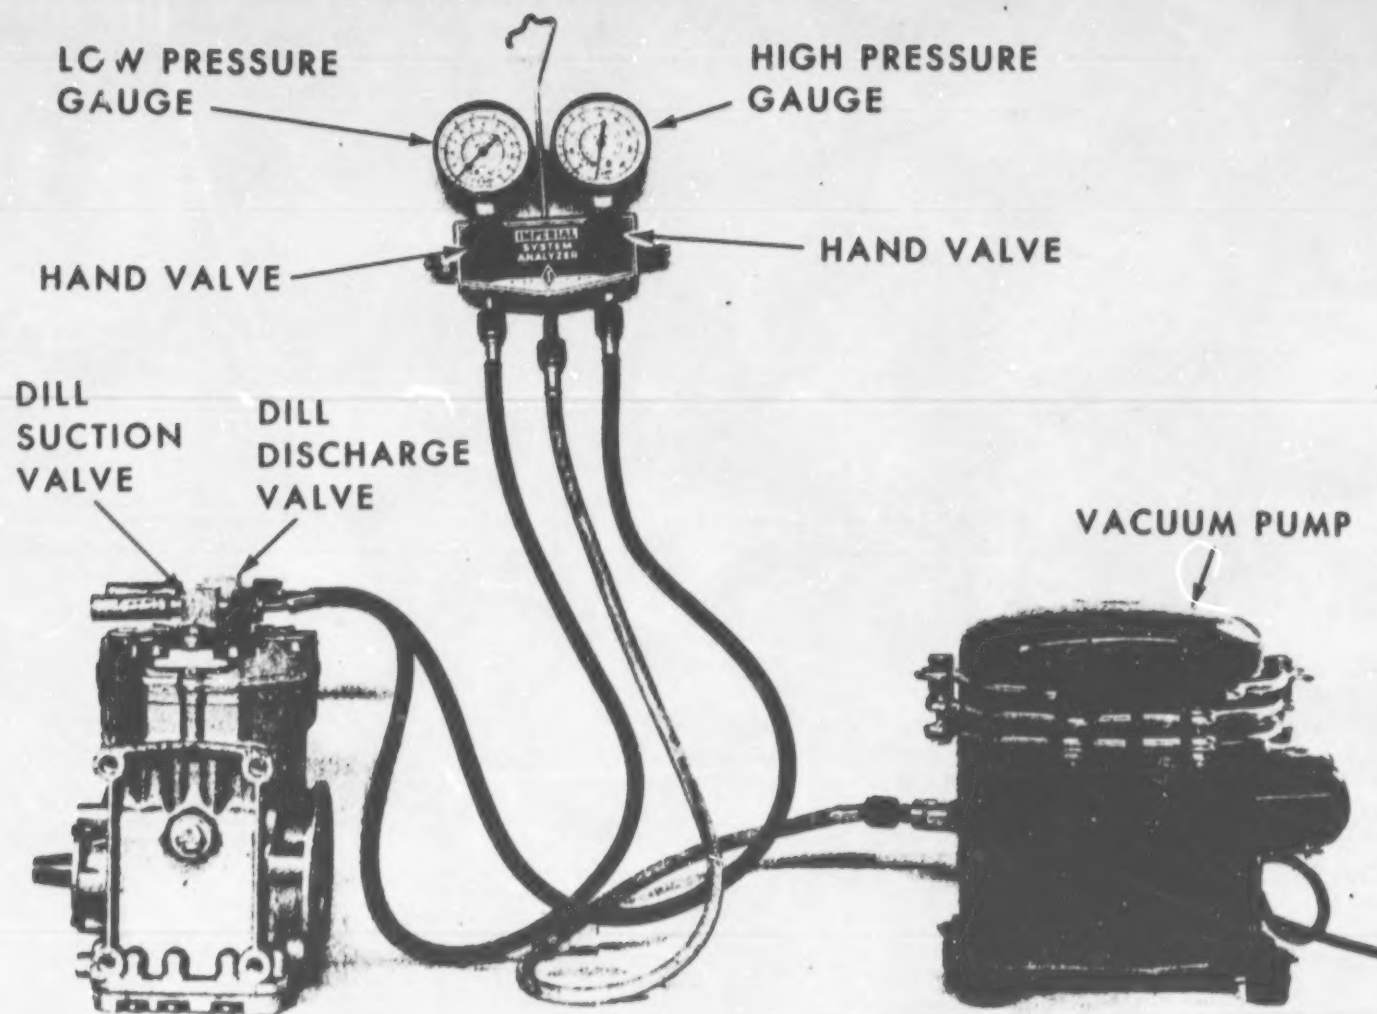

Figure 86. Gauge Set Hookup to Dill Core Valves for Evacuating.
4. Connect the center hose from the serviceman's gauge set to the vacuum pump. See figure 86 for illustration of complete hook-up.